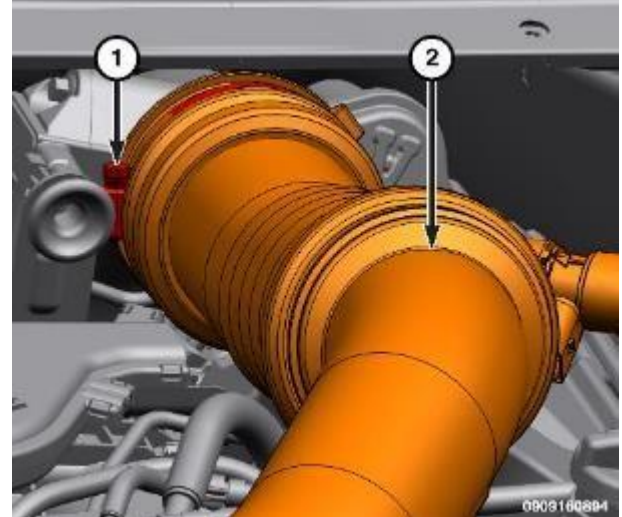

Figure 148 – Clean Air Hose
11. Loosen clamp (1) and remove the clean air hose (2) (Figure 148).